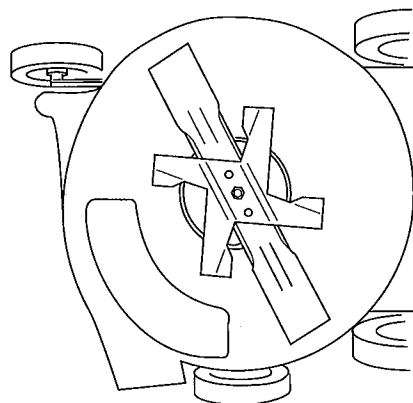

Figure 24
2. Tip mower onto right side (Fig. 24).